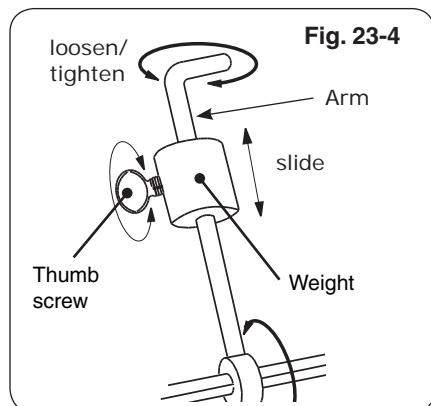
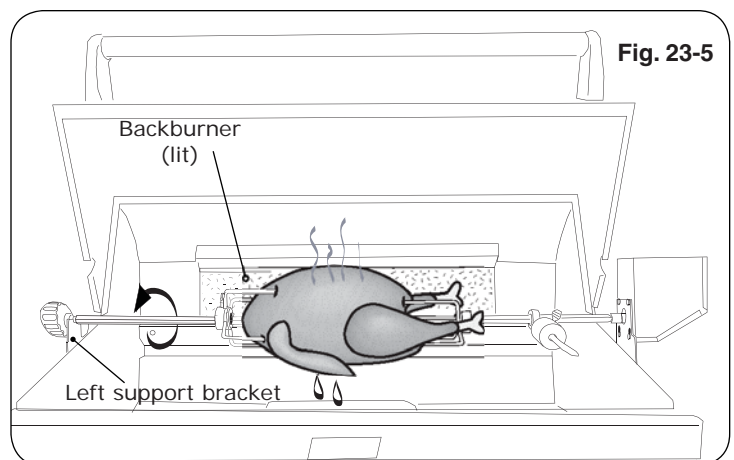

Fig. 23-4
Fig. 23-5
9. Slide the counterbalance weight up or down the arm until the rod rotates most evenly then tighten thumb screw (Fig. 23-4 and Fig. 23-5).